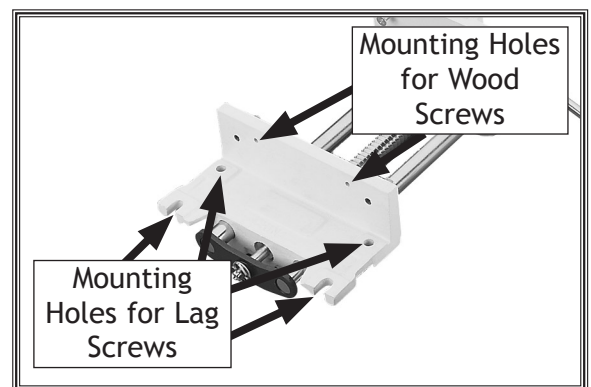

Figure 3. Mounting hole locations.
3. Use a $\frac{1}{8}$ " drill bit to drill pilot holes approximately $1\frac{1}{2}$ " deep in the face of the workbench, where the wood screws will be used (see **Figure 3**).